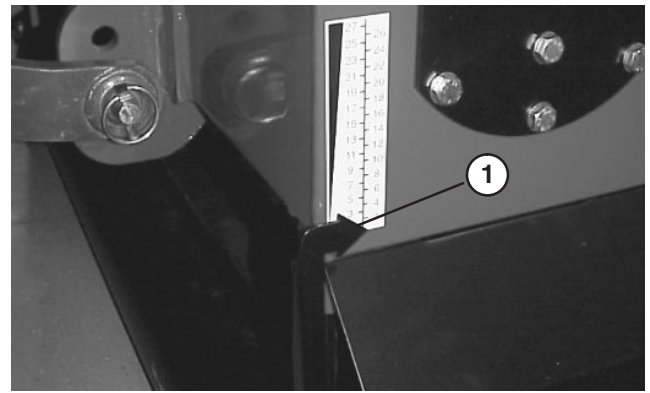

Figure 20
3. Depth guides (Fig. 20) are provided with numbers 1 through 27. Depth varies with the mounted angle of aerator, tine type and amount of tine wear. Refer to Depth Chart on page 16. Adjustment between two numbers will give approximately 0.20 inches (5 mm) change in depth. The higher the number, the deeper the tine penetration. Always adjust each side to the same number.